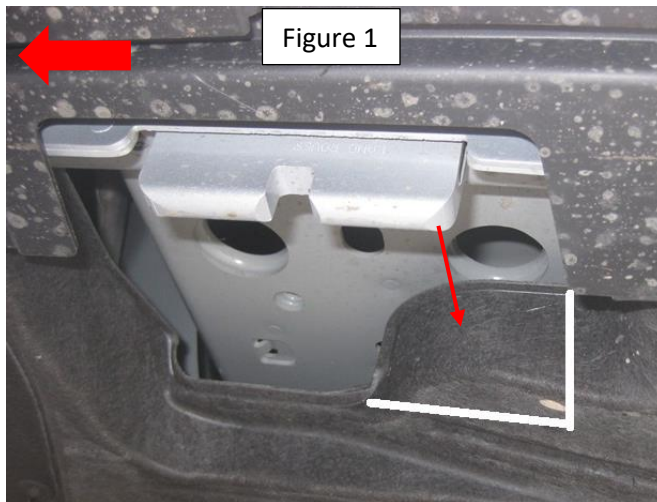
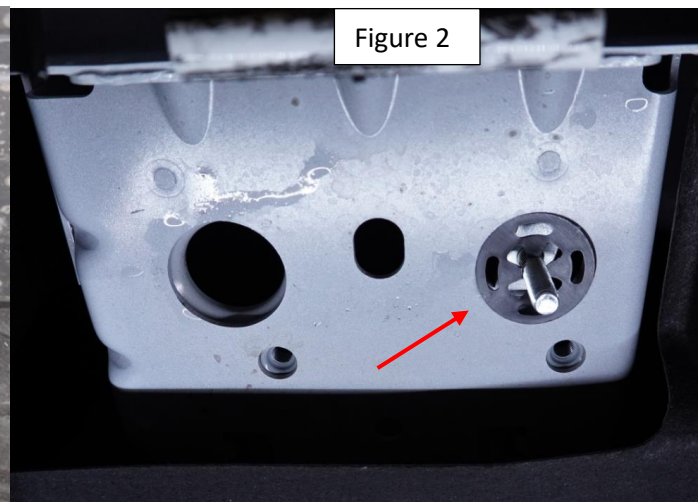

Figure 1
Figure 2
Step 1: Locate front mounting locations as shown on Figure 1. Note red arrow points towards the front of the vehicle. Install provided HTC 328 as shown Figure 2